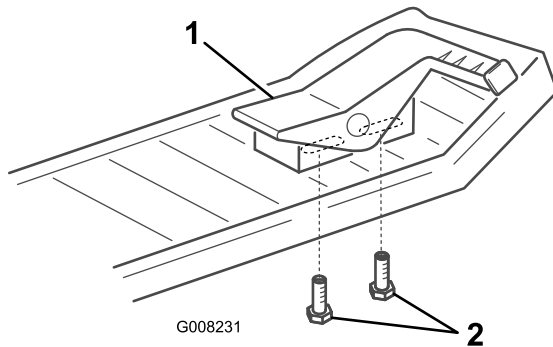

Figure 12
2. Slide the pedal forward for a faster reverse speed or backward for a faster forward speed (Figure 12).